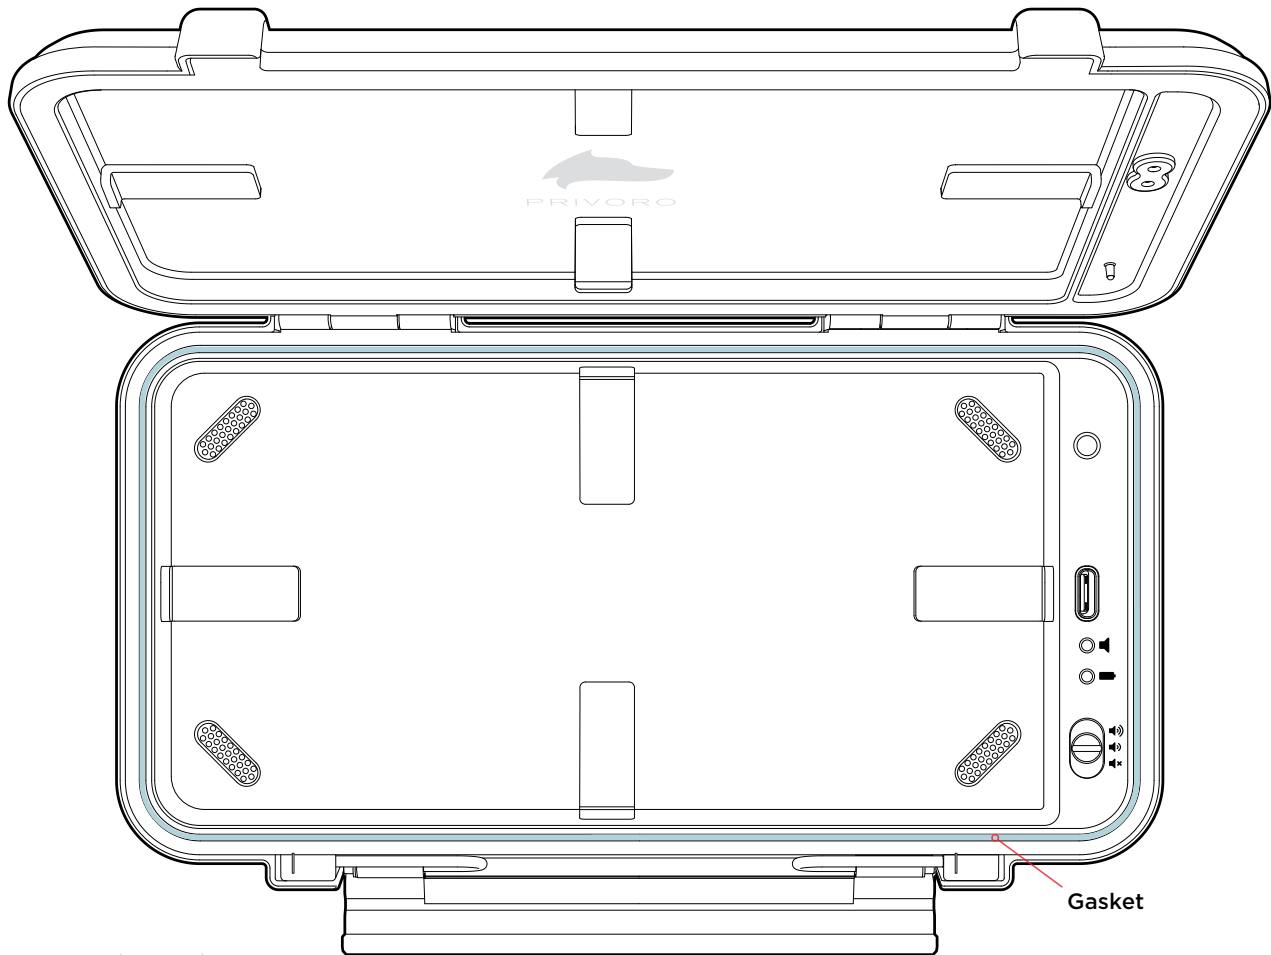

Figure 17: Clean gasket
- **Cleaning:** We recommend cleaning the gasket as required, but no less than every 500 open/close cycles (or every three months). To do so, apply gentle pressure while wiping the surface of the gasket with an alcohol wipe or a cotton ball/swab dampened with isopropyl alcohol (Figure 17).